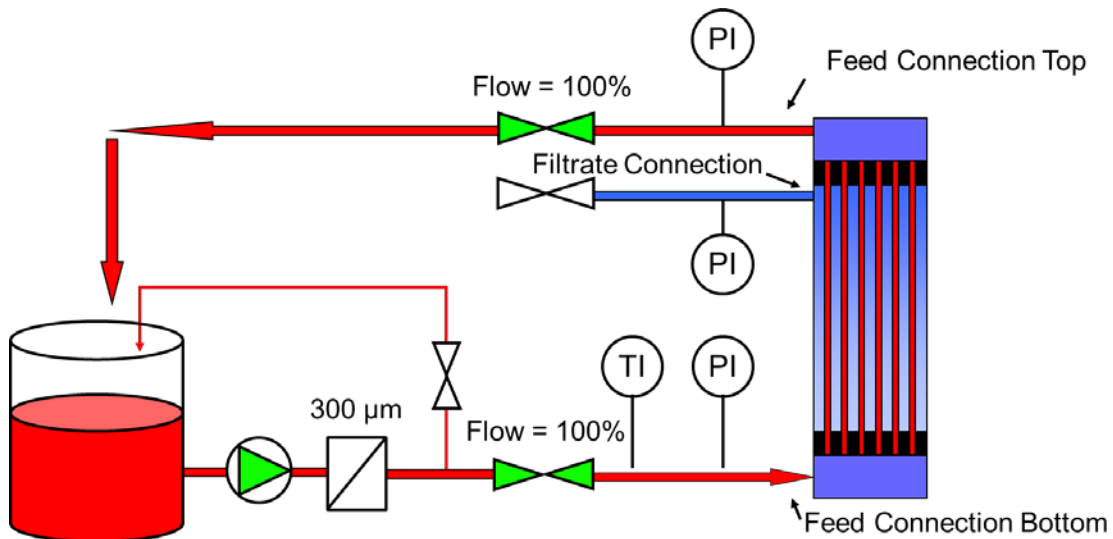

Figure 6-2: Circulation on the feed side
2. Injection of the chemical solution into the fiber lumen on the feed side is triggered by starting the CIP cleaning pump (Figure 6-2). Set the minimum volume flow rate in accordance with the section "Establishing CIP Circulation". It is important to ensure a feed side venting.